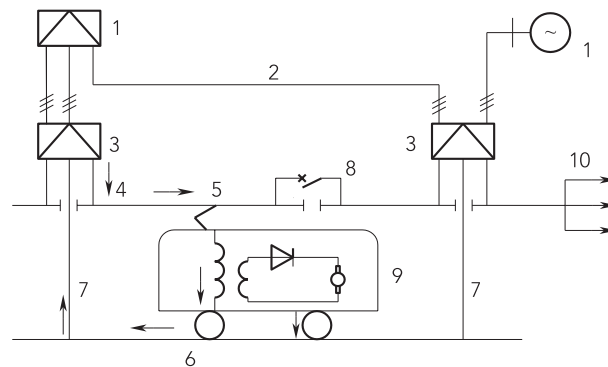
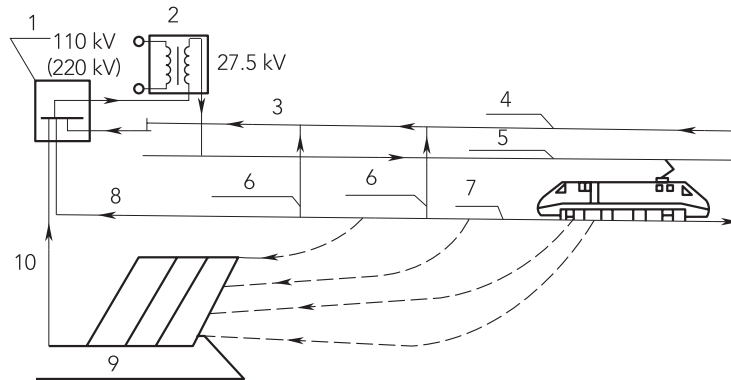

Figure 1.6 Electric Traction Power Supply System
Figure 1.8 Return Current of an Electric Traction Power Supply System
An electric traction power supply system is made up of traction substations, a traction network and other supporting power supply facilities. This system is an important facility of electrified railways and is of CLASS 1 electrical loads. It is used to supply traction power specially for electric locomotives or EMUs. Its composition is shown in Figure 1.6.
The traction current is transmitted to the pantograph through the OCS before reaching the traction transformers within the electric locomotive or EMU, and will be finally transmitted to the rail. Taking the direct feeding system with return conductor as an example, a boosting wire is set up every 3 km–4 km, which connects the negative feeder with the rail and the connection will bring the traction current back to the negative feeder via the rail. This allows the traction current to flow back to the traction substation via the negative feeder, the rail and the ground, as shown in Figure 1.8.
- (1) Discuss the process through which the electric traction power supply system supplies power to electric locomotives, based on Figure 1.6 and Figure 1.8, and fill in the boxes with the terms given below.